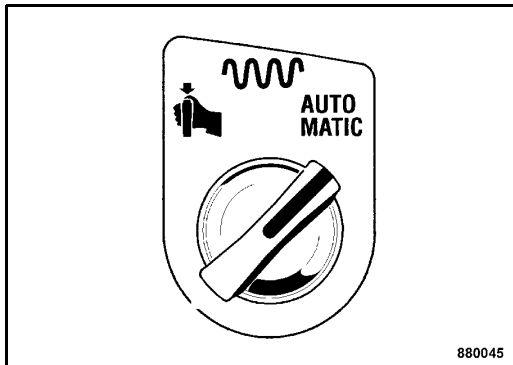

Fig. 76
- Turn the rotary switch for vibration in manual or automatic mode (Fig. 76) clockwise to the symbol "AUTOMATIC".